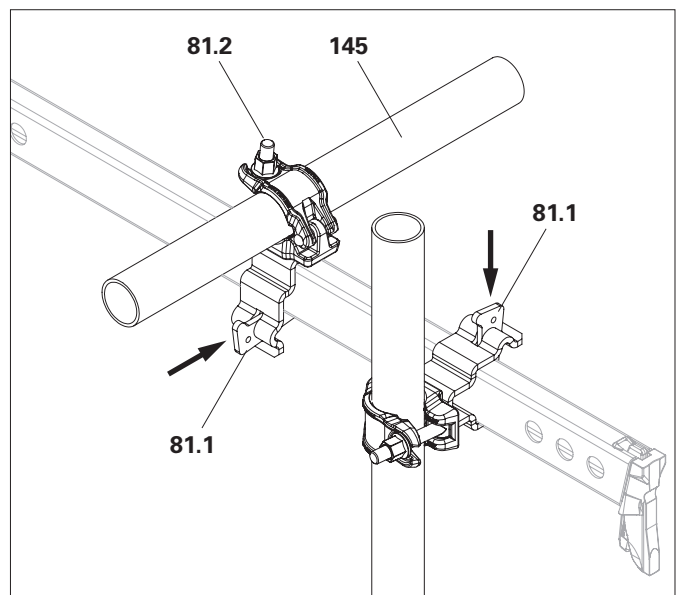

Fig. A10.03b
2. Insert the wedge into the clamping part and hammer it tight. (Fig. A10.03b)
3. Fit the scaffolding tube (**145**) in the tube coupling (**81.2**). (Fig. A10.03b)